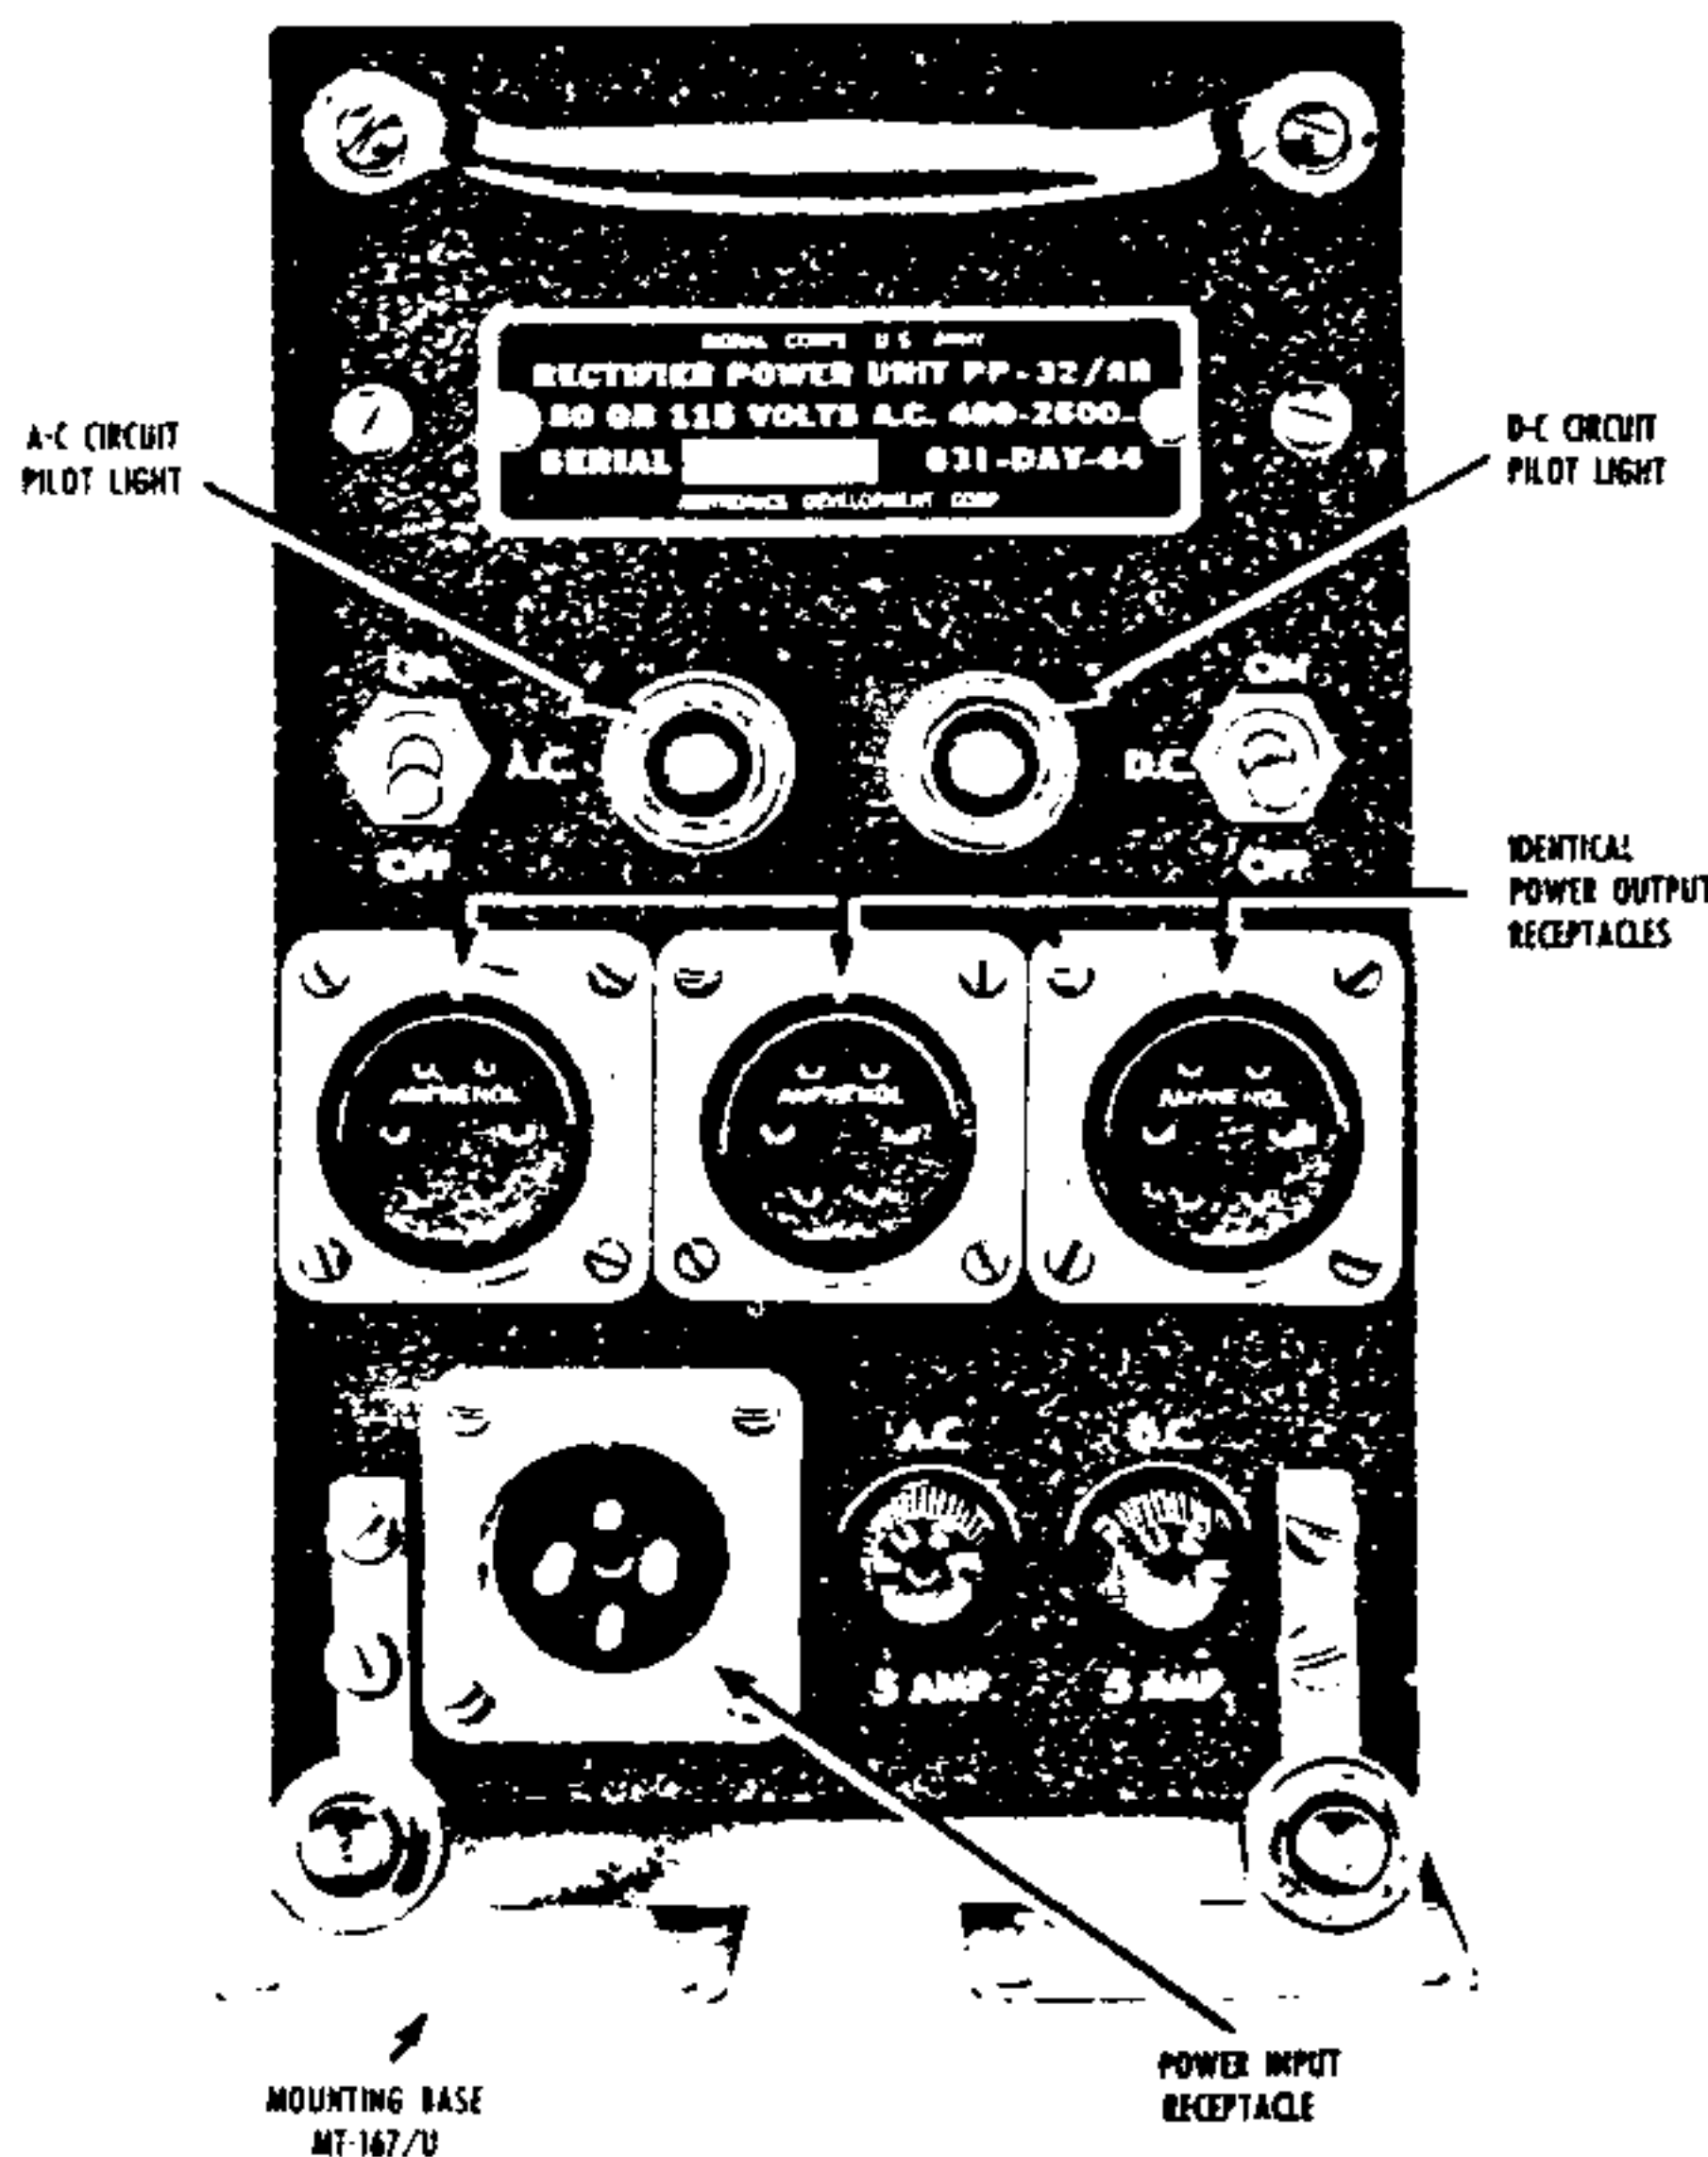

Figure 3-1. Rectifier Power Unit PP-32/AR—
c. Make sure that the fuses located in the holders on the front panel of the rectifier power unit are in place and intact. (See figure 3-1).
2-12. OPERATIONAL. (See figures 3-1, 3-2, and 3-3.)
(See figures 3-1, 3-2, and 3-3).